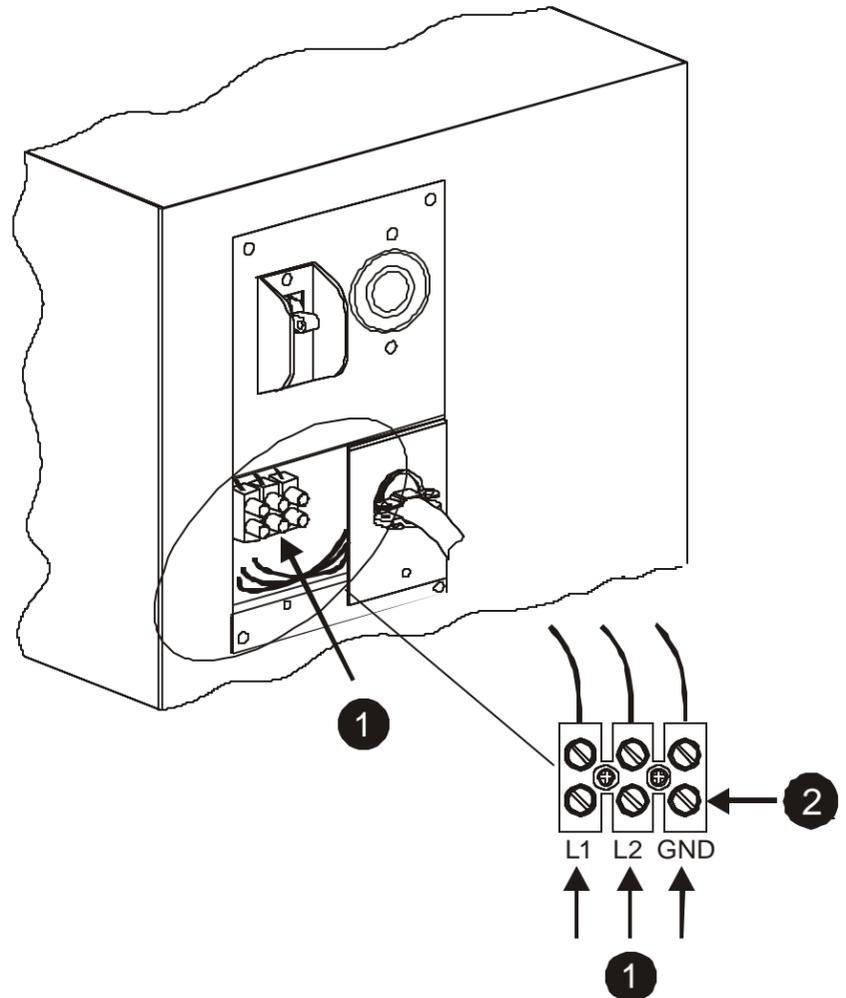

Figure 3.5 Install Wires to Terminal Block
1. Strip off 3/8 of an inch on each wire and install to the terminal block as shown in Fig. 3.5. Tighten screws securely. Make sure all wires are securely fastened.